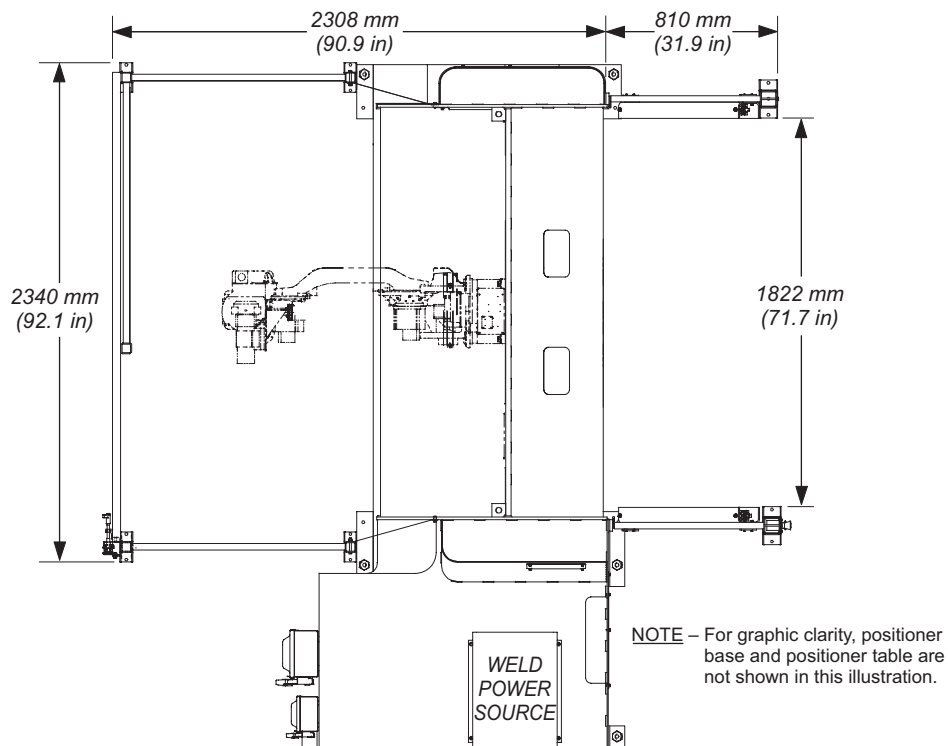
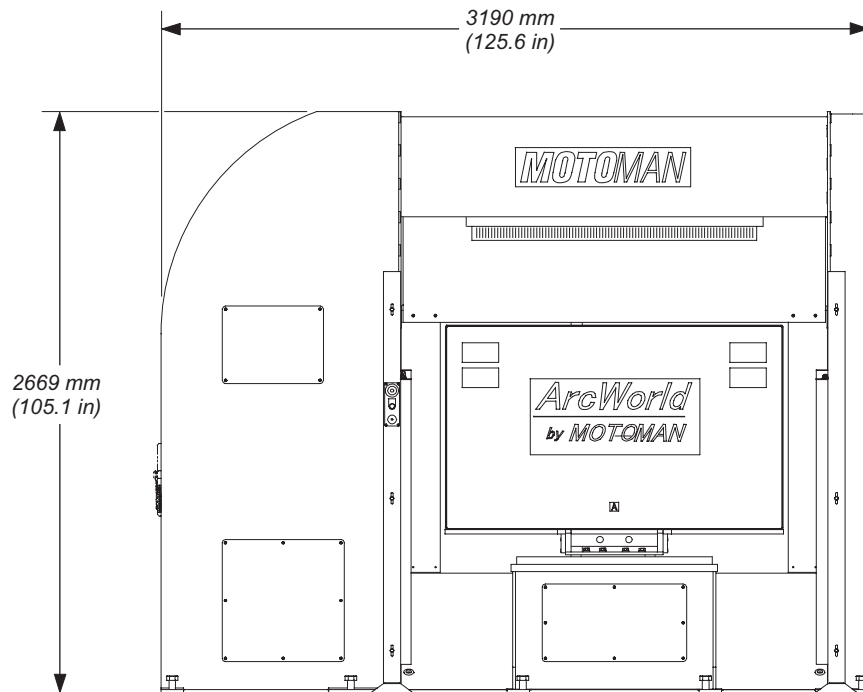

Figure 8 Plan View — ArcWorld®V-1000
Figure 9 Elevation View — ArcWorld®V-1000
1. Clear floor space and overhead area needed for the ArcWorld®V-1000 system (see Figure 8 and Figure 9). Allow an additional 1.2 - 1.5 m (4 to 5 ft) on all sides of the work cell to provide the clearances needed for installation.
6. Place the Common Equipment Structure in the desired operating location (see Figure 8 and Figure 9).
1. Adjust stabilizing screws (see Figure 2 and Figure 8) as required to stabilize the Common Equipment Structure.
3. Repeat the drilling process at each stabilizing screw location (see Figure 2 and Figure 8).
4. Repeat the drilling process at each auxiliary stabilizing location (see Figure 2 and Figure 8).